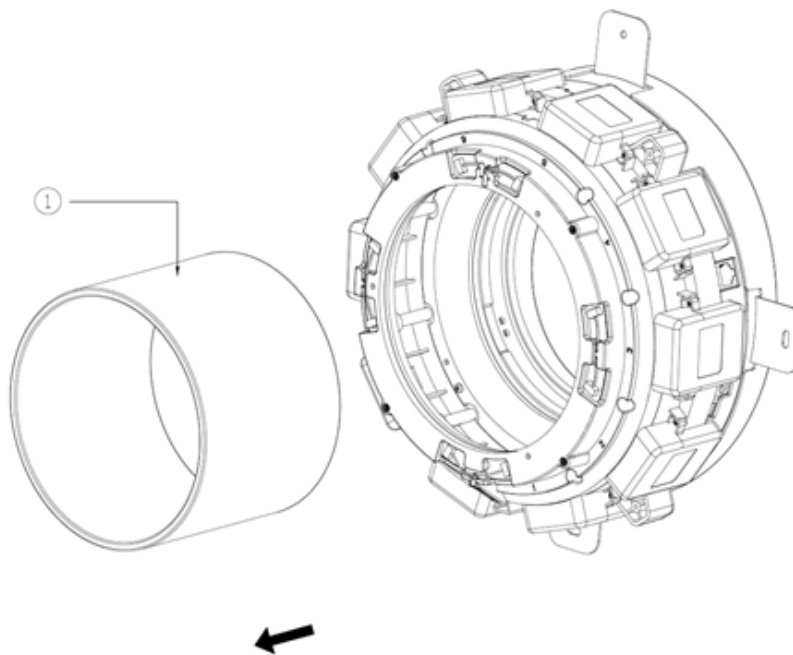

Figure 3-1
(3) Remove the Glass Cylinder
As shown in Figure 3-1, remove the glass cylinder①(RVM100-GC) in the direction of the arrow. If you want to clean or replace the glass cylinder, please try using alcohol or glass water with a dust-free cloth to wipe the glass cylinder.